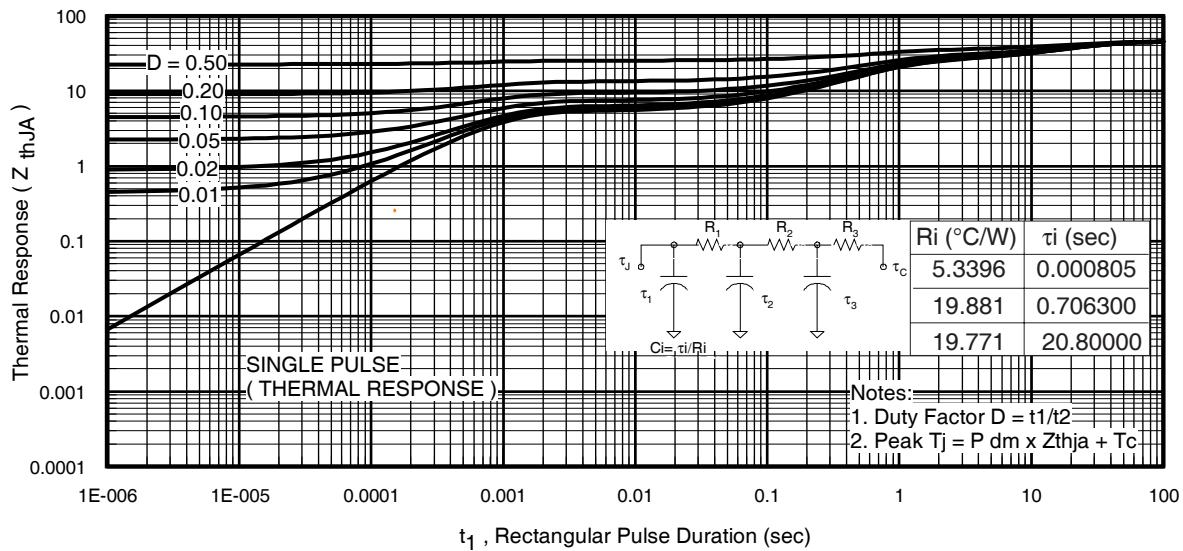
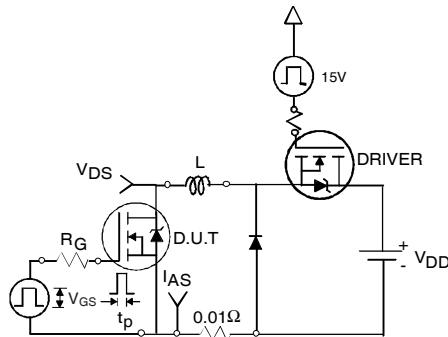

Fig 11. Maximum Effective Transient Thermal Impedance, Junction-to-Ambient
Fig 12a. Unclamped Inductive Test Circuit
- ① Repetitive rating; pulse width limited by max. junction temperature. (See fig. 11).
- ② Limited by $T_{J\text{max}}$, starting $T_J = 25^\circ\text{C}$, $L = 4.8\text{mH}$ $R_G = 25\Omega$, $I_{AS} = 3.0\text{A}$, $V_{GS} = 10V$.
- ③ Pulse width $\leq 1.0\text{ms}$; duty cycle $\leq 2\%$.
- ④ $C_{oss \text{ eff.}}$ is a fixed capacitance that gives the same charging time as C_{oss} while V_{DS} is rising from 0 to 80% V_{DSS} .
- ⑤ Limited by $T_{J\text{max}}$, see Fig.12a, 12b, 15, 16 for typical repetitive avalanche performance.
- ⑥ This value determined from sample failure population. 100% tested to this value in production.
- ⑦ When mounted on 1 inch square copper board.
- ⑧ When mounted on FR-4 board using minimum recommended footprint.
3. Equation below based on circuit and waveforms shown in Figures 12a, 12b.
$Z_{thJC}(D, t_{av})$ = Transient thermal resistance, see figure 11)